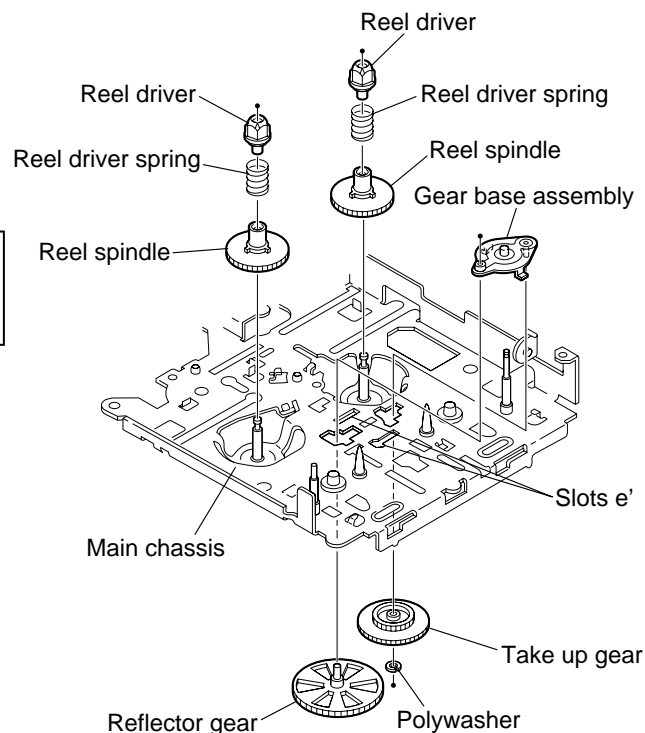

Fig.34
■ Removing the reel driver / reel spindle (See Fig.34)